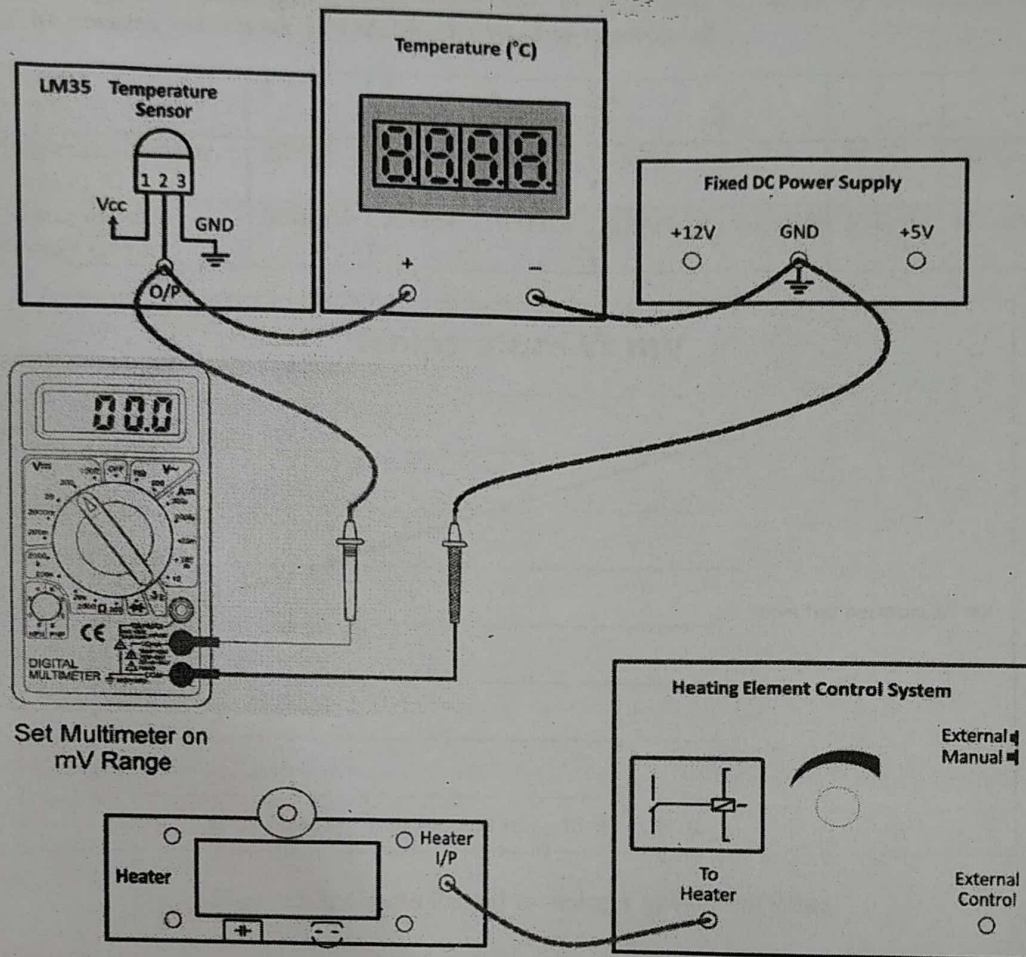

Fig2.2: Connection circuit of LM35 Temperature sensor
1. Make Connection Diagram as shown below figure2.2.